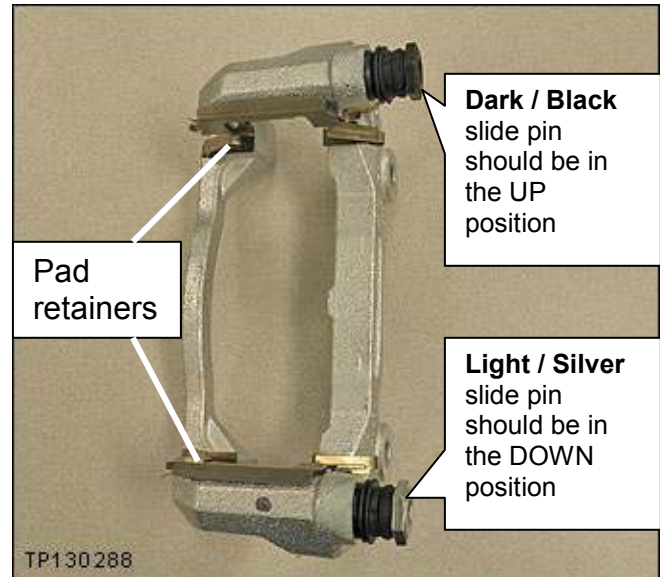

Figure 3
- Make sure to install the correct torque mount on the correct side (refer to Figure 3 and the Parts Information).